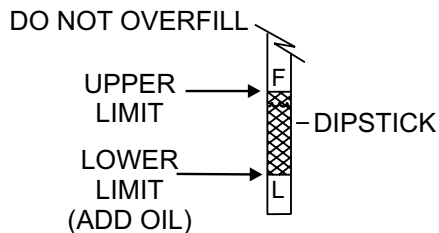

Figure 21. Engine Oil Check
- Determine if engine oil is low. Oil level should be between the upper and lower limit (Figure 21) on the dipstick.